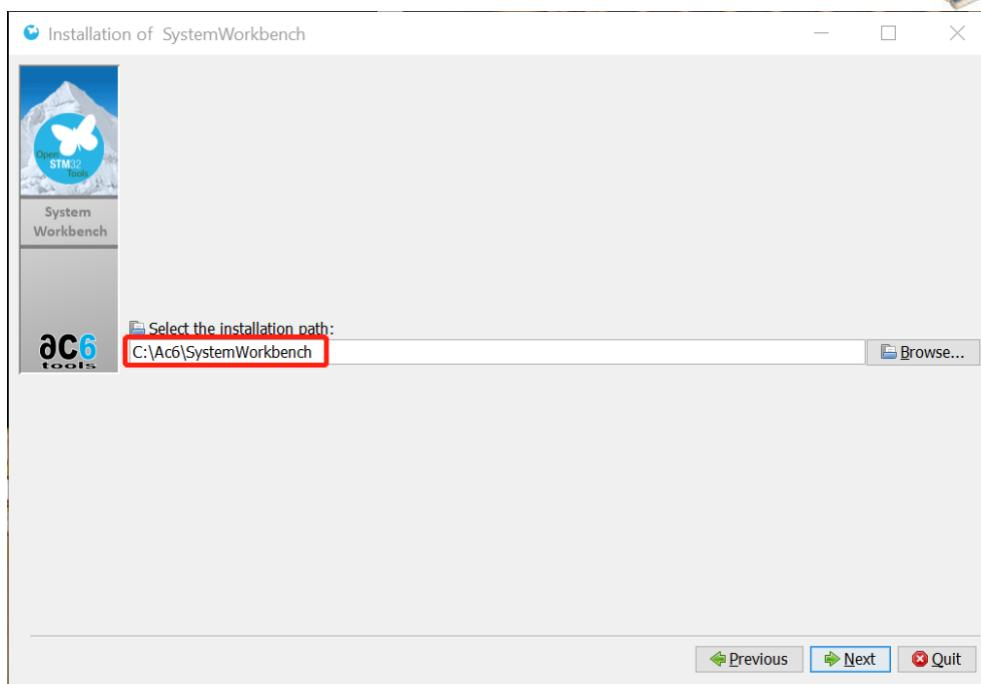

Figure 5: Use default installation directory
- Use its default installation directory and click next to continue. See Figure 5.